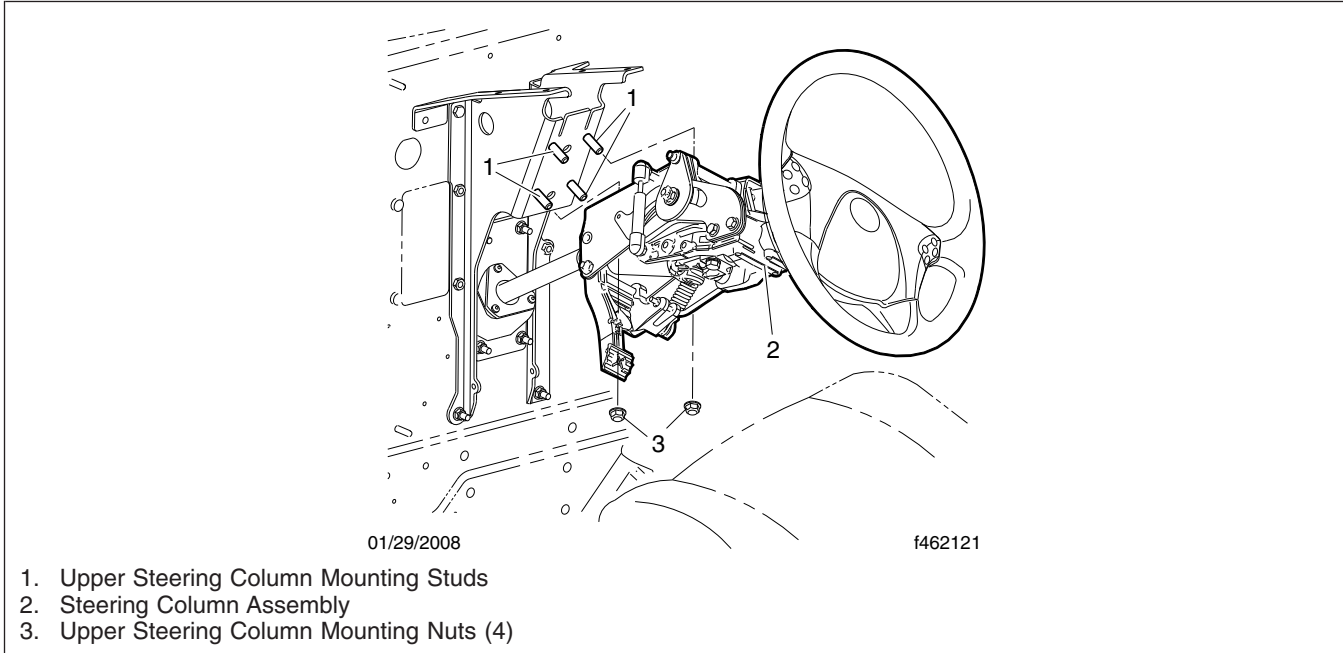

Fig. 4, Lowering the Steering Column
9. Remove the fasteners that hold the steering column in place, and lower the column to rest on the driver's seat. See **Fig. 4**. See **Group 46** in the *Cascadia Workshop Manual* for the procedure.